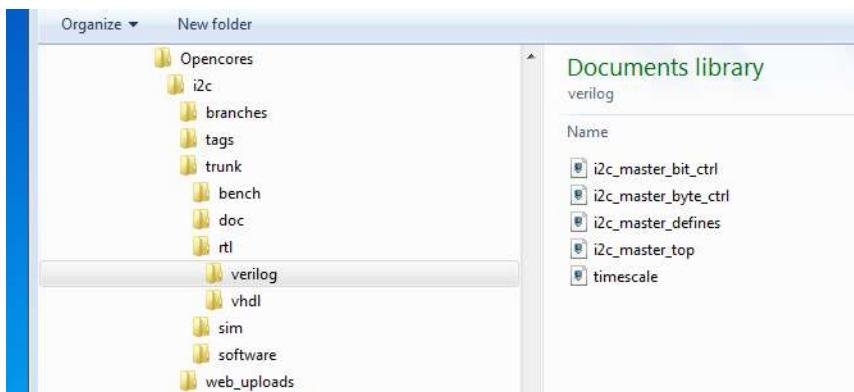

Figure 4-6 Verilog RTL design files
2. Navigate to the i2c/trunk/rtl/verilog directory of your I2C core, as seen in Figure 4-6, and select all the files (in Windows you can do this by holding down the Ctrl key as you click the files), then click Open.